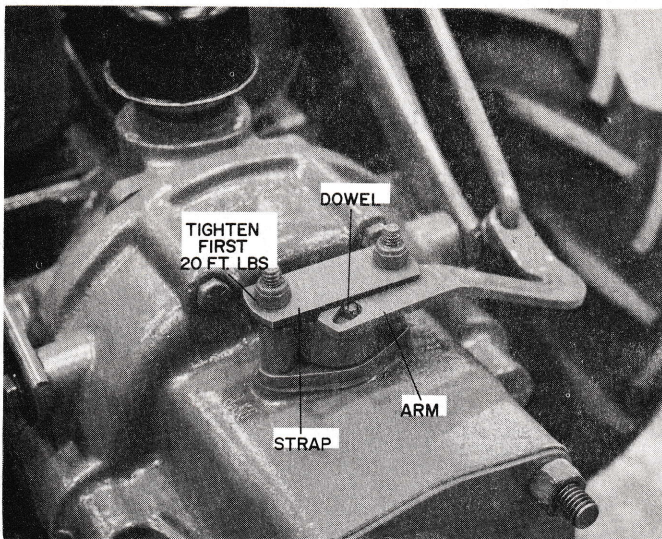

fig 3
20. After the right-side is tight, torque the left-side to 20 ft. lbs., fig 3.